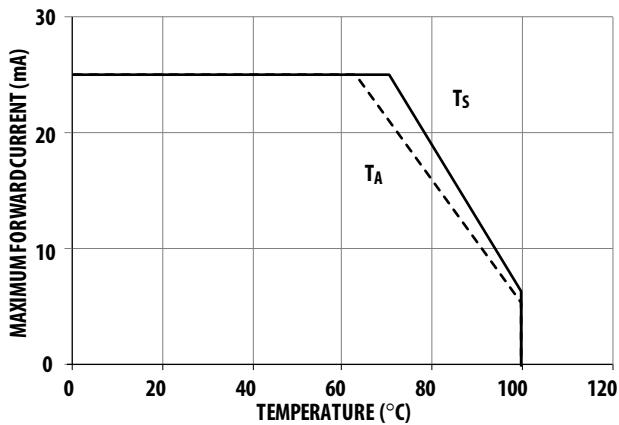

Figure 7. Maximum Forward Current vs. Temperature For Red (1 Chip On)
1. Derate linearly as shown in Figure 7 to Figure 10.